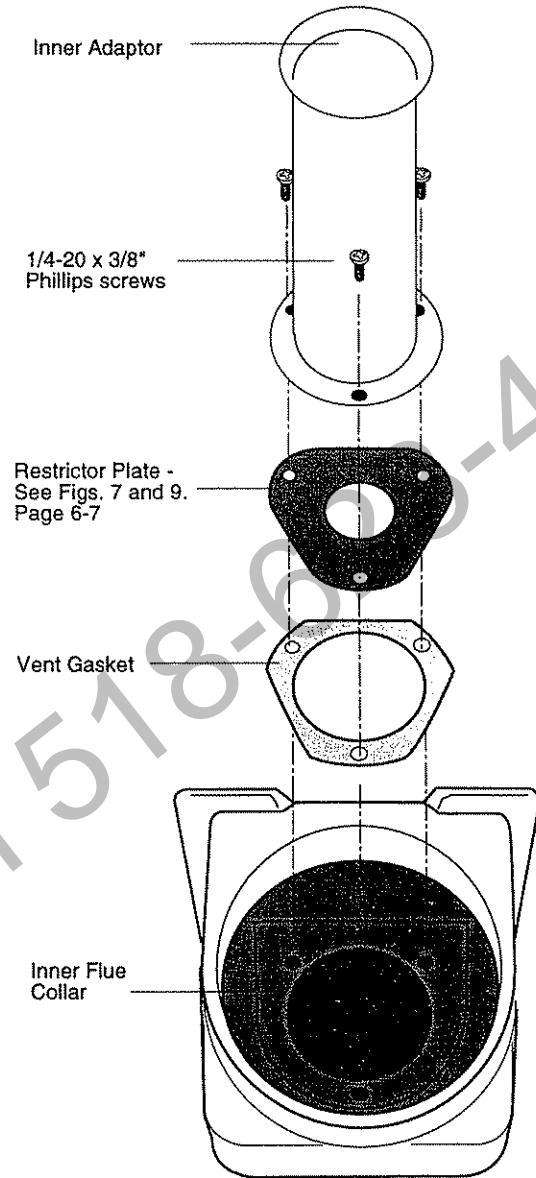

Figure 25. Secure the Inner Adaptor to the flue collar.
2. Attach the Inner Adaptor Pipe to the stove with three 1/4-20 x 3/8" Phillips screws (see parts bag). Fig. 25.